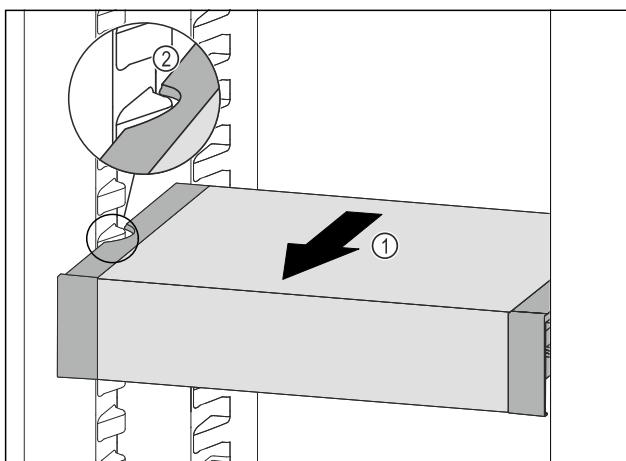

Fig. 89
- Pull VarioSafe forwards Fig. 89 (1) until the recesses in the side of the VarioSafe are at the level of the support rib in the fridge section. Fig. 89 (2)